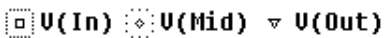

Figure 11 Trace legend with V(Mid) symbol outlined.
- a Right-click the trace legend part (diamond) for V(Mid) to associate the second cursor with the Mid waveform. The crosshair pattern for the second cursor outlines the V(Mid) trace part as shown in Figure 11.